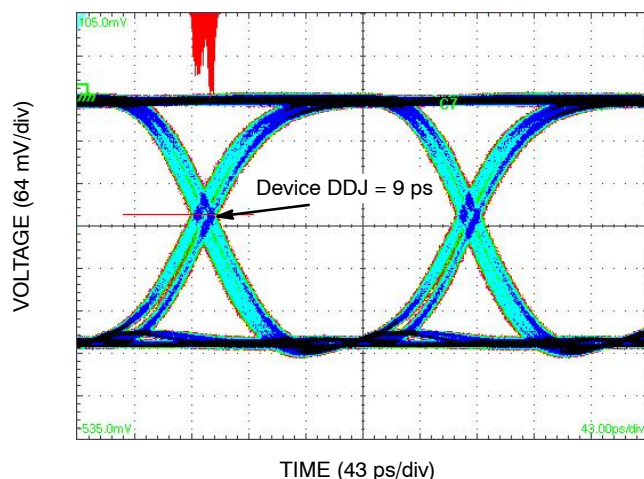

Figure 11. Typical Output Waveform at 5 Gb/s with PRBS 223-1 ($V_{INPP} = 400$ mV; Input Signal DDJ = 13 ps)
3. $V_{INPP(MAX)}$ cannot exceed $V_{CC} - V_{EE}$. Input voltage swing is a single-ended measurement operating in differential mode. See Figure 11.